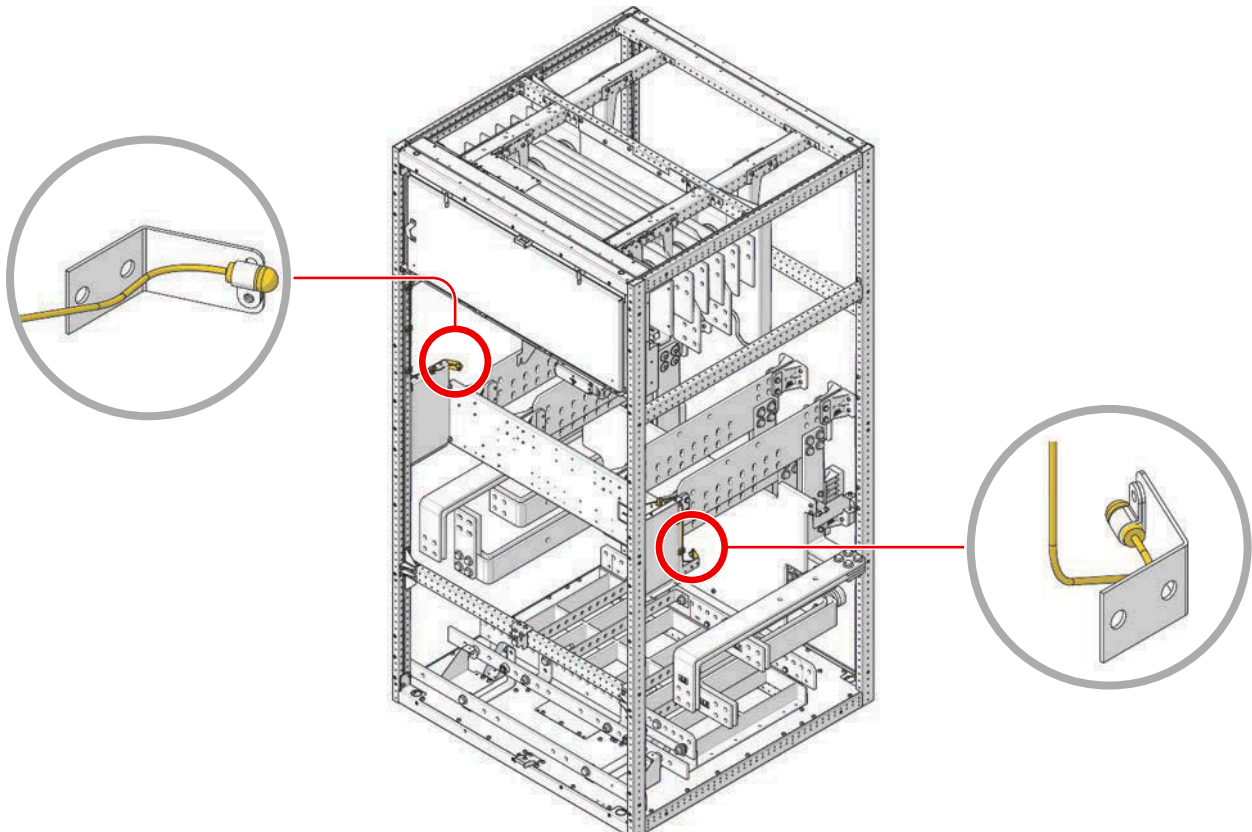

Figure 6–7 Location of Arc Guard sensors in a TEU
- Optical fiber detectors: pre-installed in the relevant cabinets with the corresponding optical fibers coiled up beside the detectors (Fig. 6–7).